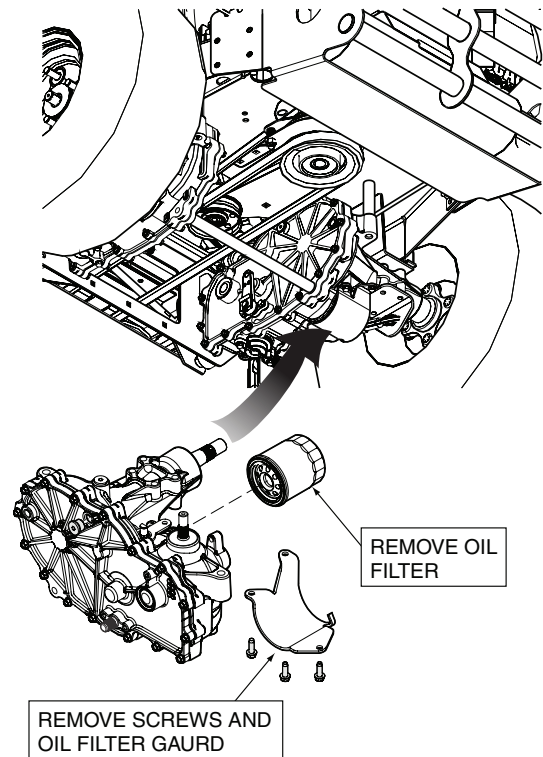

Figure 7-2. Hydraulic Oil Filter and Drain Plug
2. Remove the three 1/4" filter guard screws and filter guard from both axles. See Figure 7-2. Clean any loose debris around the perimeter of the filter.
4. Remove the hydraulic filters from both axles and allow the fluid to drain into the container. Properly discard the oil when the system has drained completely. See Figure 7-2.